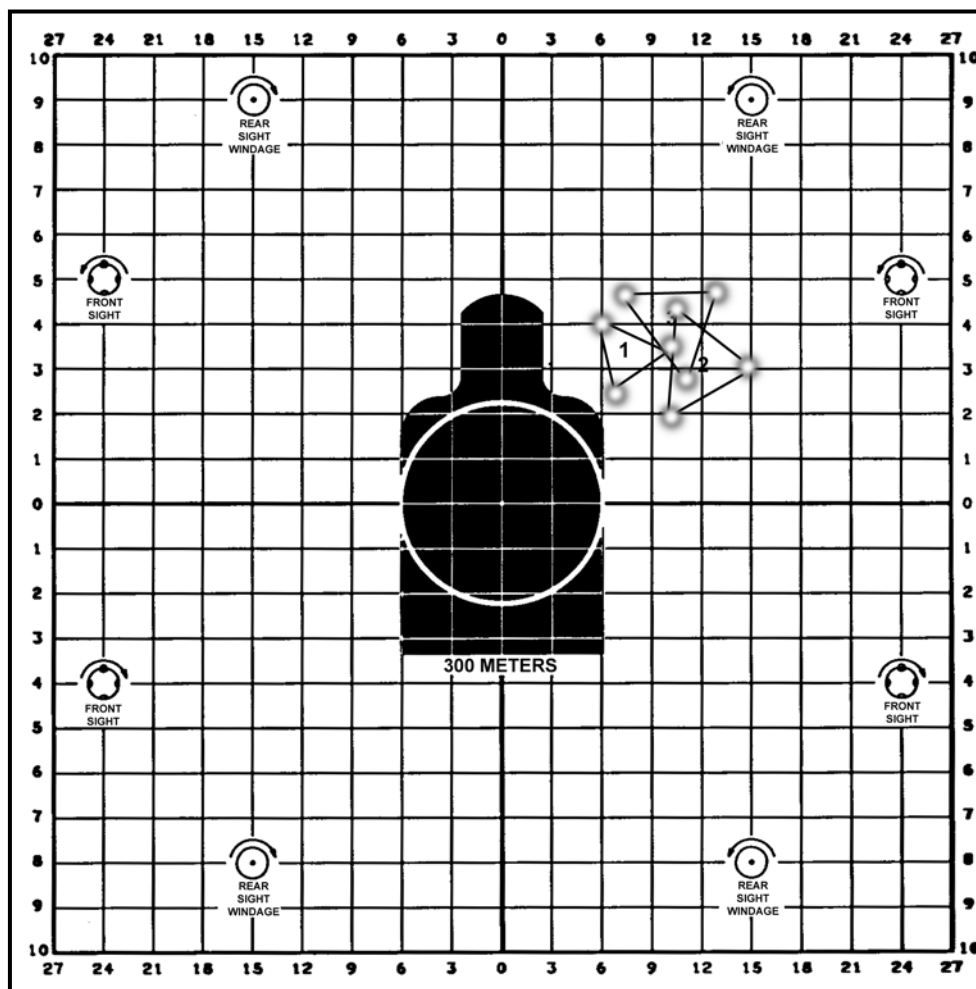

Figure 5-11. Acceptable shot grouping performance.
(1) **Acceptable Shot-Grouping Performance.** The shot groups in Figure 5-11 represent acceptable shot groups (4 centimeters or less) in the same location. A soldier firing this shot grouping should make a sight change of left 10 and down 4. Any change should be clearly marked on the target and saved for reference. The soldier would then be ready to zero his weapon.